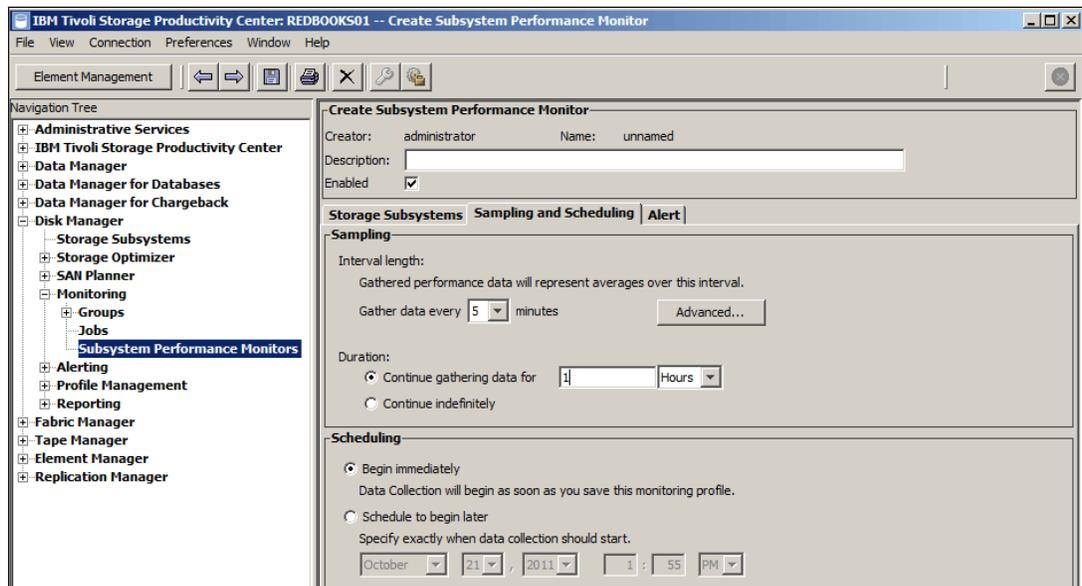

Figure 9-32 Sampling and scheduling
2. Select the **Sampling and Scheduling** tab to configure the interval length, duration, and scheduling of the Performance Monitor job to be submitted, as shown in Figure 9-32.